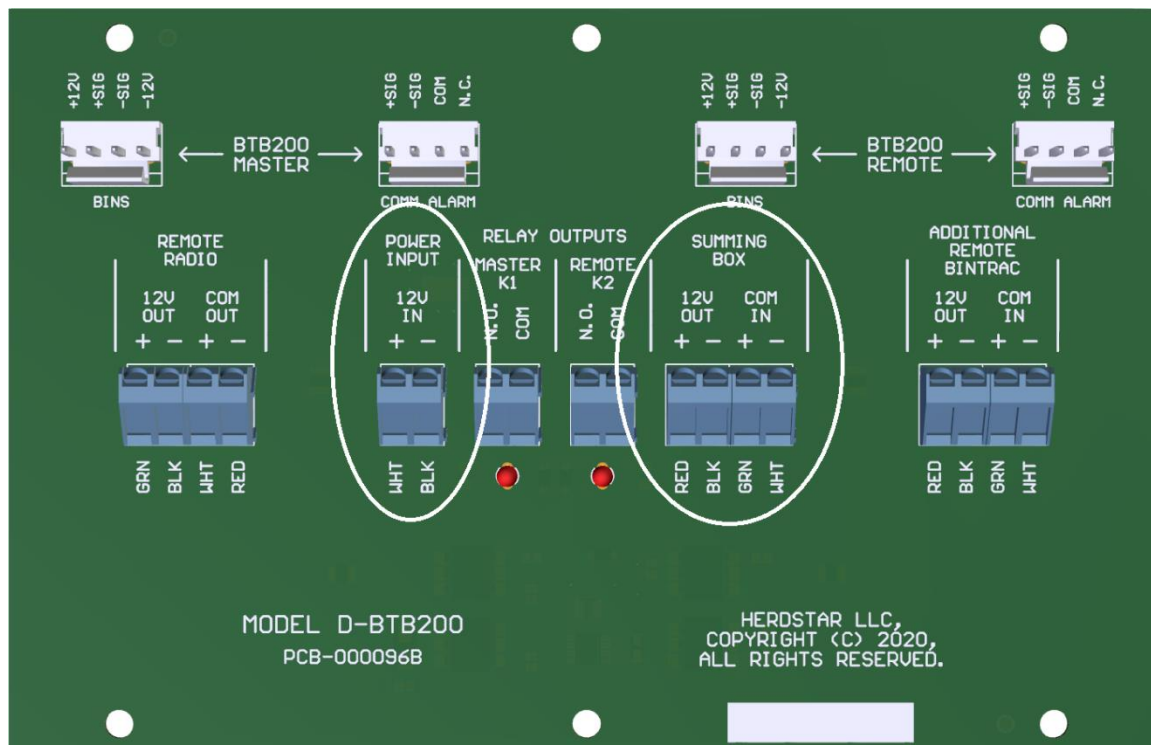

Figure 10: Insert wires in appropriate terminal block.
31. Locate the terminal block in the BinTrac Dual Breeder Control labeled 'SUMMING BOX' (see **Figure 10**).
33. Connect the wires from the BinTrac power supply to the terminal block labeled 'POWER INPUT' (see **Figure 10**) where WHITE is 12V IN (+) and BLACK is 12V IN (-).